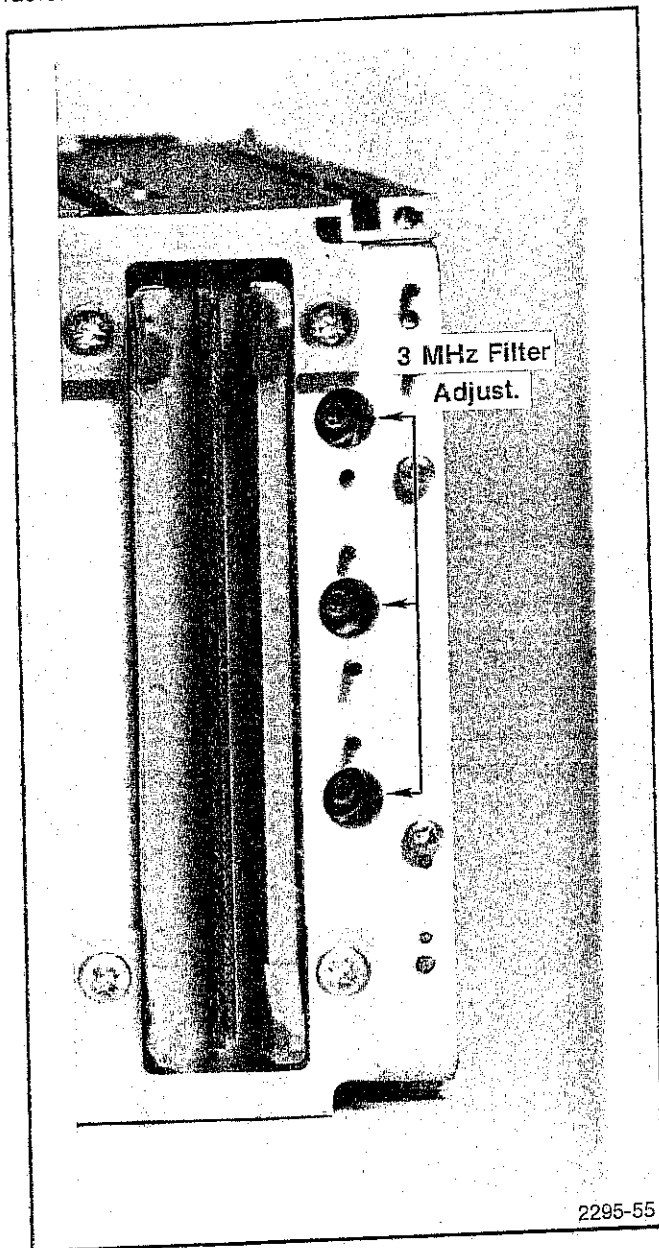

Fig. 4-47. Location of 3 MHz, Three-Section Filter Adjustments.
f. Change the RESOLUTION BANDWIDTH to 3 MHz, then adjust the three cavity filter (see Fig. 4-47) with a 7/64" Allen drive wrench, and the 3 MHz Noise Filter with C3454 (see Fig. 4-45) for the best amplitude, symmetry, and shape around the 30 kHz reference center frequency.